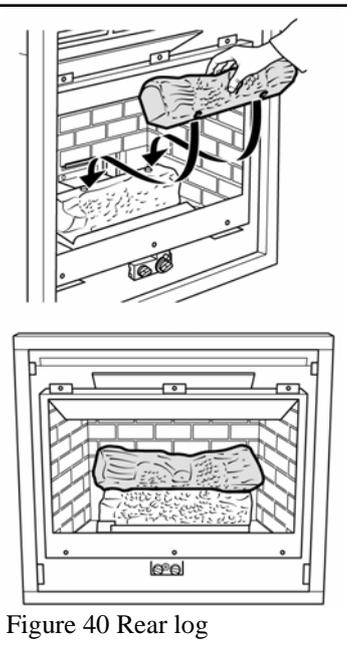

Figure 40 Rear log
2. Place the rear log in position locating the two top projections in the ash bed into the holes in the rear log. See figure 40.